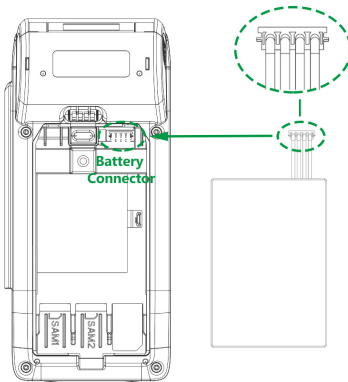

Figure 10
STEP 1: Insert the battery connector into AT150 with correct direction as Figure 10.